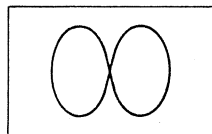

FIGURE 1. Lissajous pattern for MPX alignment.
- Align bottom core of Z301, top and bottom cores of Z302, Z301 and Z751 for maximum gain and symmetry—see Figure 1. Repeat alignment.